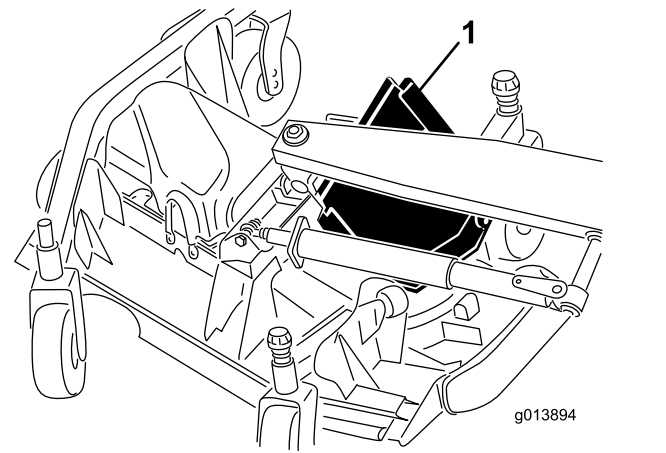

Figure 76
6. Lift the front edge and guide it between the lift arm and the roller to remove it (Figure 76).